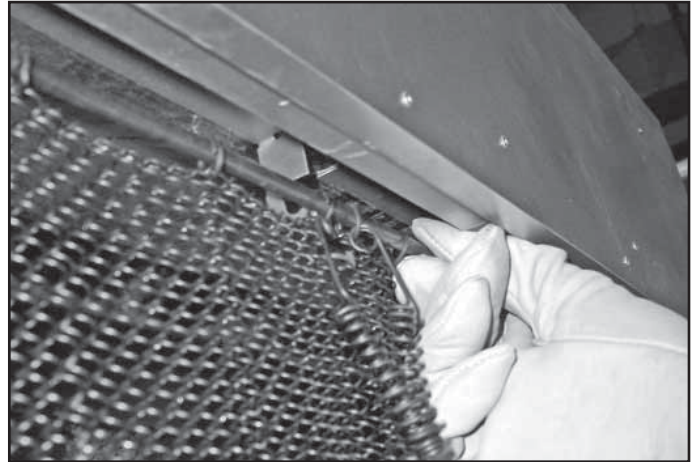

Figure 15.14 Place Center of Screen Rod
- Place the center of the screen rod into the center screen rod support (see Figure 15.14).